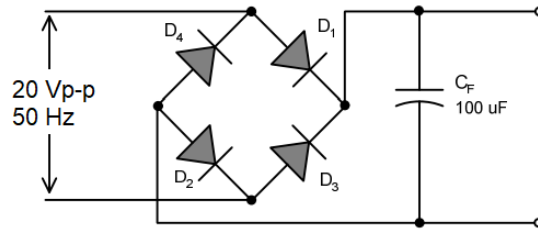

Figure 9: Bridge Rectifier
1. Connect the circuit as shown in Figure 9 without capacitor.